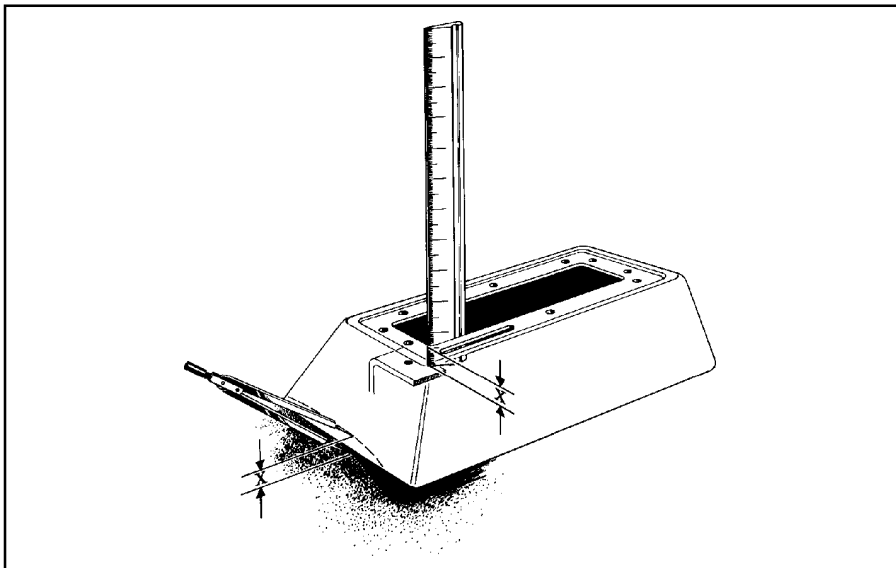

Figure 9
tower touches the floor. Put the shifter cover and the indicator cable through the opening in the top of the tower. Hold the tower level to the shifter with the bottom of the tower touching the highest surface on the floor it will come into contact with (**See Figure 9**). Use a ruler to measure the distance X from the underside of the tower to the tower mounting brackets on the shifter mechanism.
STEP 30. Set a pair of dividers at the distance X, measured in **step 29**. Hold the tower level to the shifter mechanism with the bottom of the tower touching the highest surface on the floor it will come into contact with. Holding the tower in position, place one leg of the divider against the floor while the other touches the tower (**See Figure 9**). Using the dividers, scribe a line around the tower that follows the contour of the floorboard. Remove the tower and trim at the scribe line using tin snips. Once the tower is properly trimmed, install it using two flat